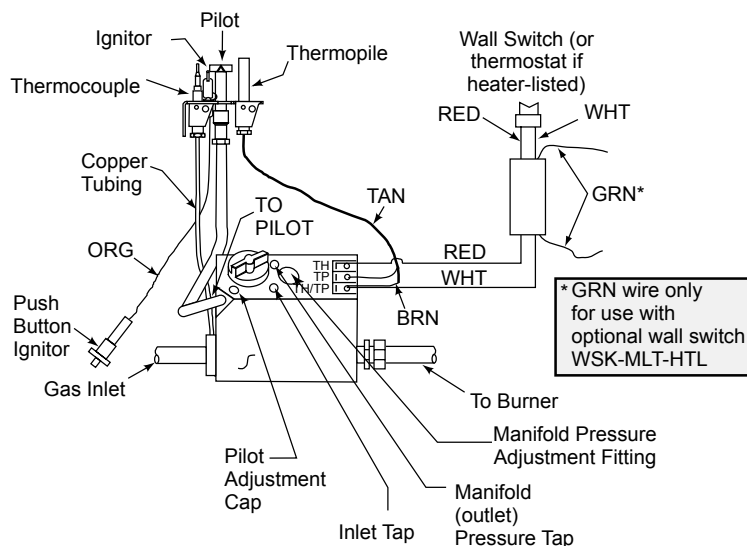

Figure 10.3 Standing Pilot Ignition Wiring Diagram
- This standing pilot ignition system wiring does not require a 110 VAC supply to operate. A wiring diagram is shown in Figure 10.3.